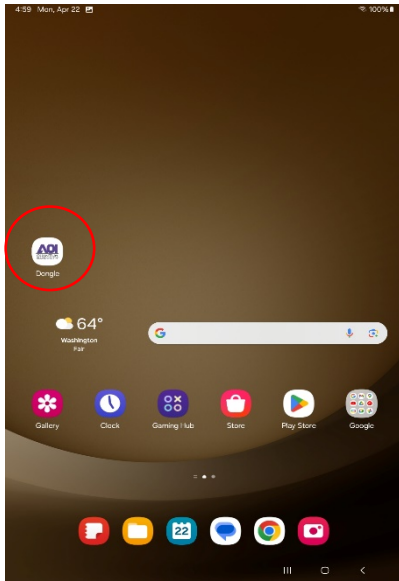

Figure A- 4: Android Home Screen
- Locate and Initiate QuantumLink Local Mobile Application on the Technician’s portable device (Tablet/Handheld), see Figure A-4.